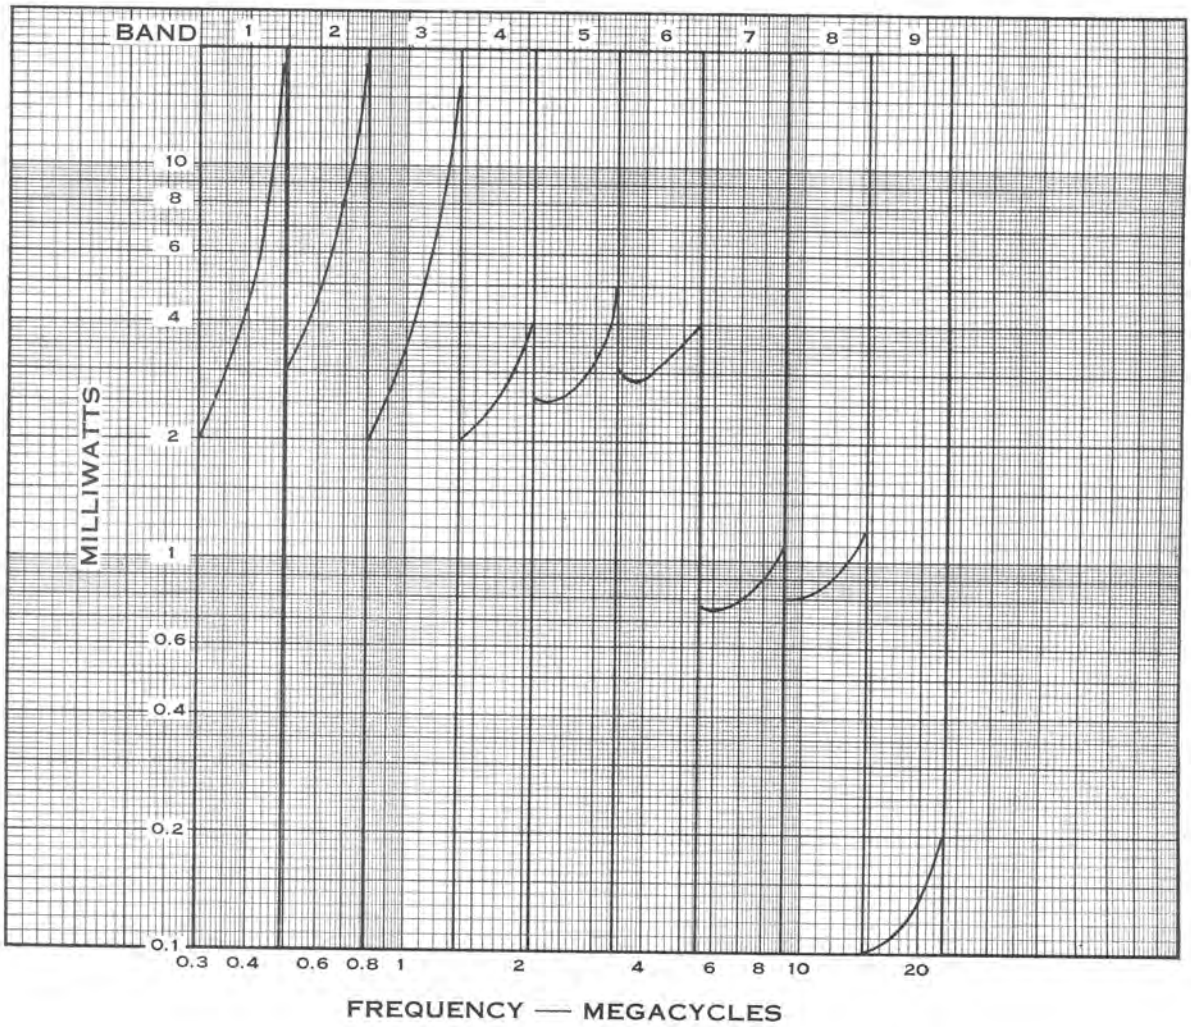

Figure 9—Maximum Noise
- 11.2-1 Figure 9 shows approximate values of maximum receiver noise level for the various bands. This data will be found useful for a rough check on sensitivity. The method of measurement is to adjust the receiver as for sensitivity (see 11.1), switch off the signal generator, increase the "Sensitivity" control to maximum and measure output noise voltage. The measured values of noise may be expected to vary considerably due to atmospheric conditions, tube characteristics, external noise conditions, etc., so that unless the noise output is definitely low, no attempt should be made to improve performance and, in any case, the sensitivity should first be accurately checked as explained in Section 11.1.
- 11.2-2 If measuring equipment is not available, an approximate measurement may be made by adjusting the "Regeneration" control to critical oscillation and all other controls for maximum noise output. The antenna terminal should be connected to ground through a 300-ohm resistor preferably inside the receiver cabinet (to eliminate external noise pickup). In this case, the noise output should be approximately 3 db higher than the values shown in Figure 9. (This is twice the value of milliwatts shown therein.)